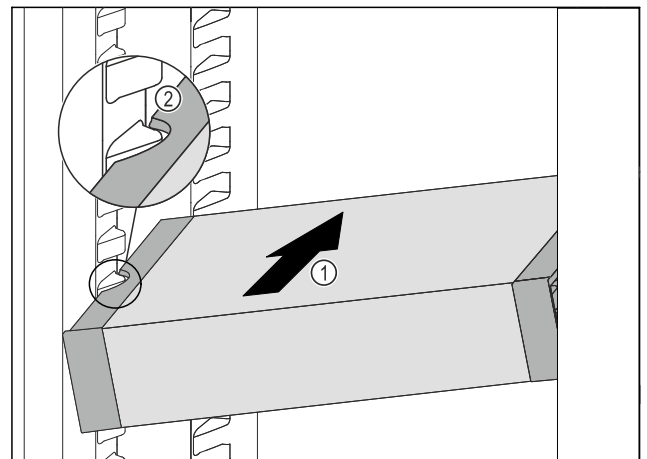

Fig. 93
- ▶ Insert the VarioSafe into the fridge section at an angle Fig. 93 (1) until the recesses in the side Fig. 93 (2) of the VarioSafe are at the level of the support rib in the fridge section.